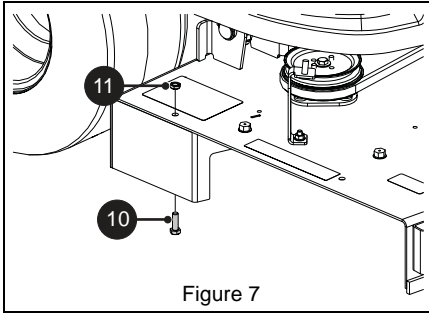

Figure 7
1. From under deck install one 5/16" x 1" hex bolt (item 10) and secure with one 5/16" hex jam nut (item 11). See Figure 7.